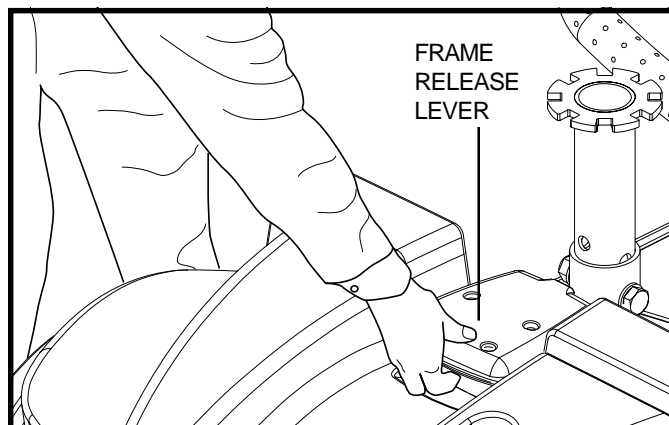

Figure 22. Frame Release Lever
3. Grasp and lift up on the frame release lever. See **figure 22**.